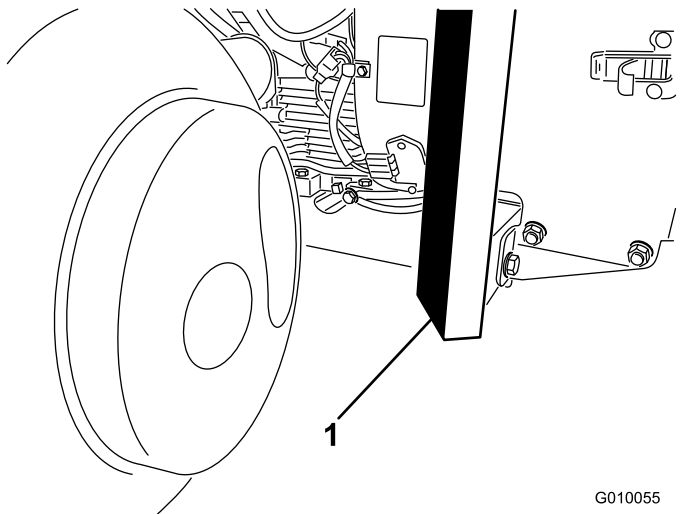

Figure 41
3. Position the jack securely under the front of the frame (Figure 41).